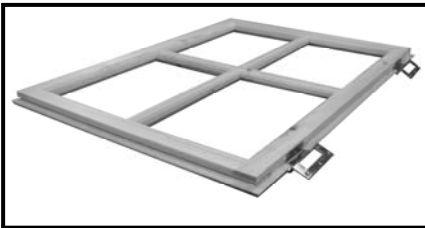

Fig A11– STYLE MAY VARY
20. (fig. A11 &A12) using the pre drilled holes in the hinge and 3 x 25mm screws. Repeat with the other hinge. And close the hinges together.